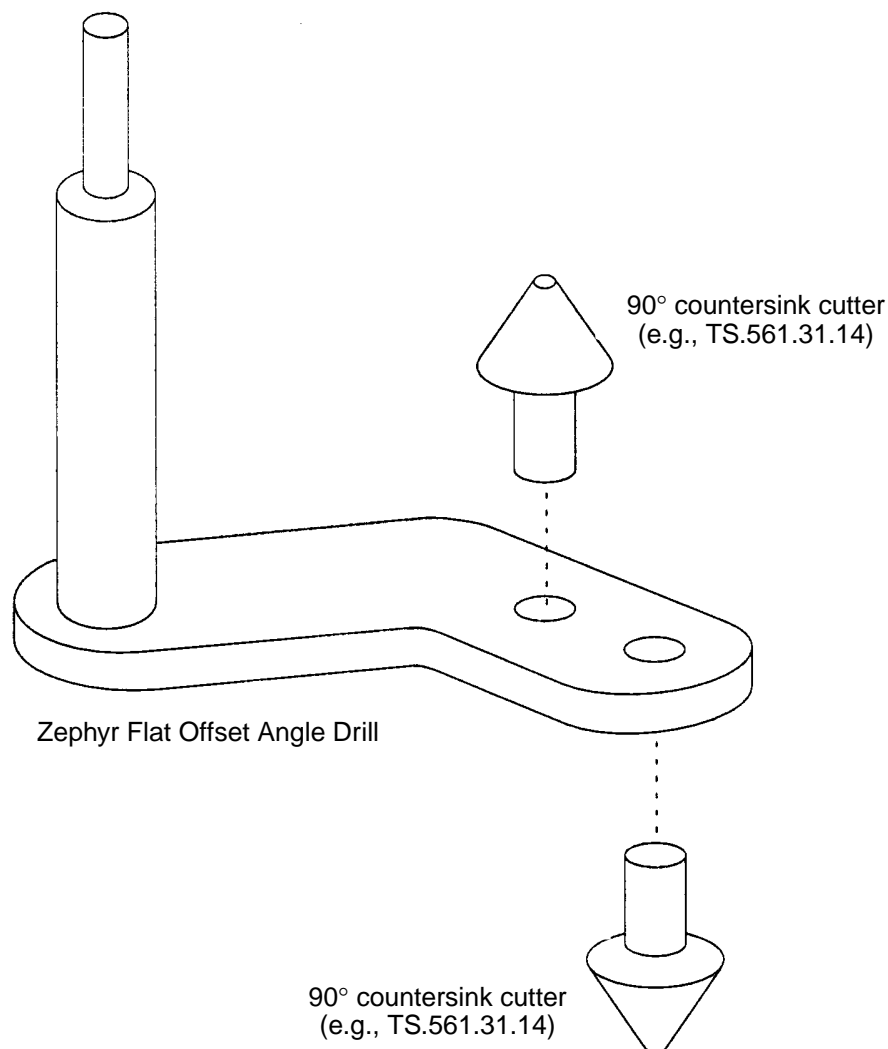

Figure 11 - Zephyr Flat Offset Angle Drill
5.3.10 Countersink Cutter (see Figure 11)